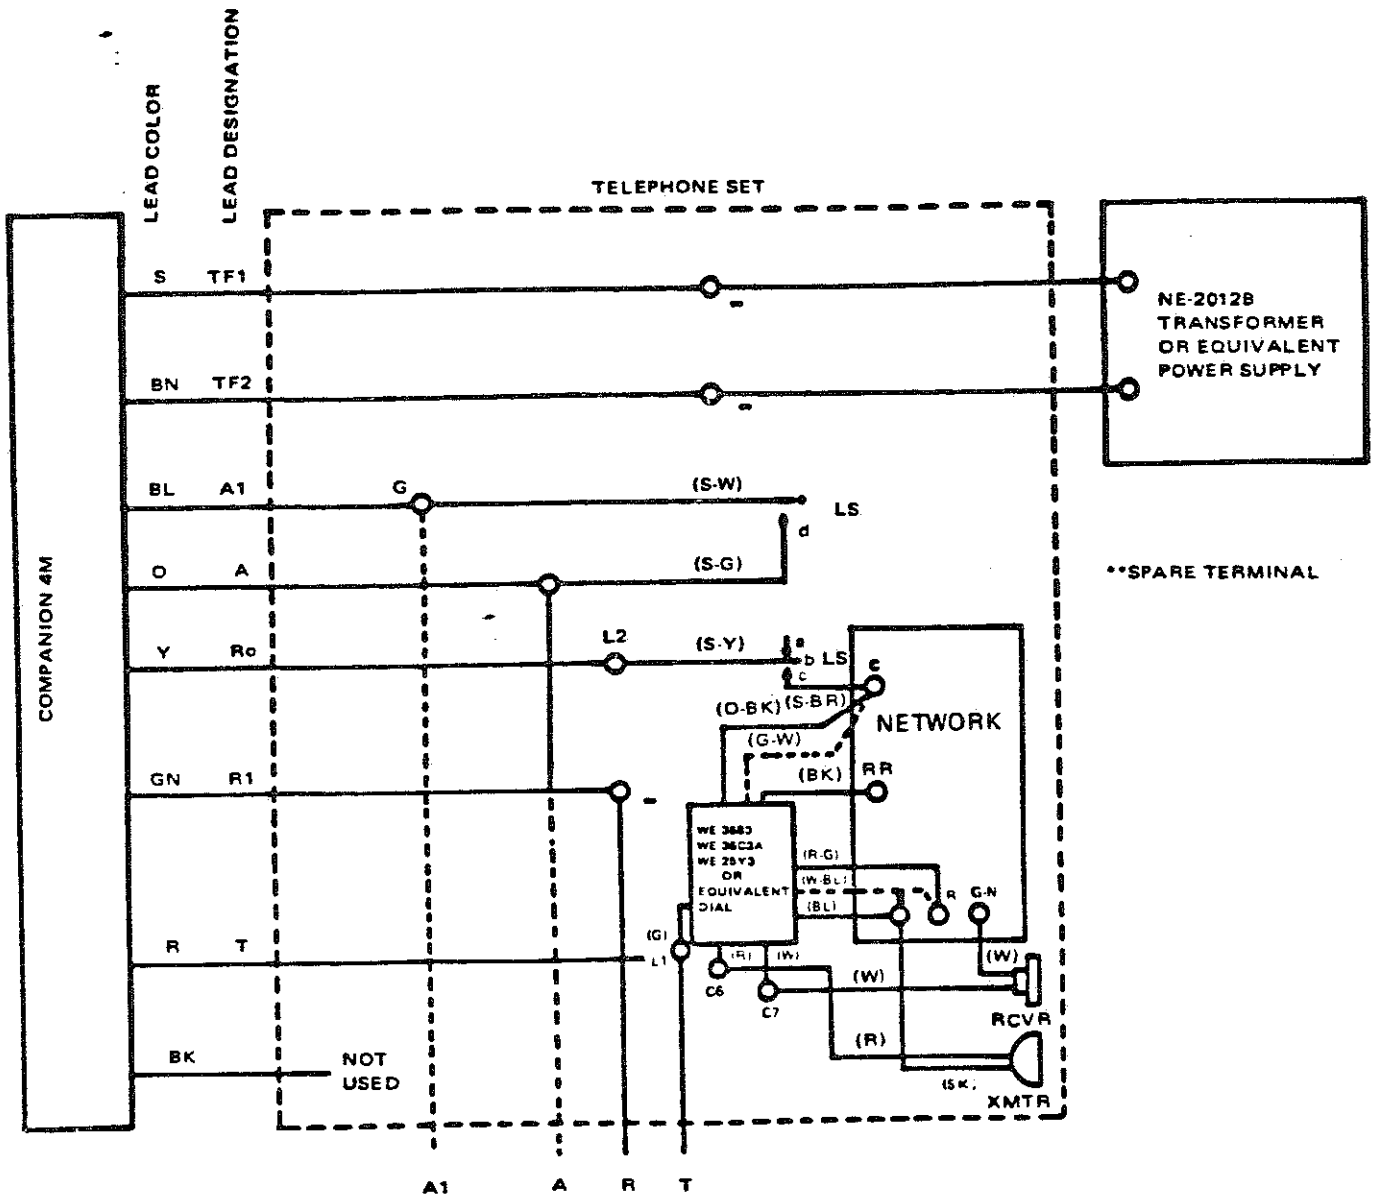

Fig. 4 - Connection to a traditional Single Line Set
4.02 The connections between the unit and its associated telephone set are made at the telephone set. Fig. 4 and 5 provide information for connecting the unit to the telephone set.